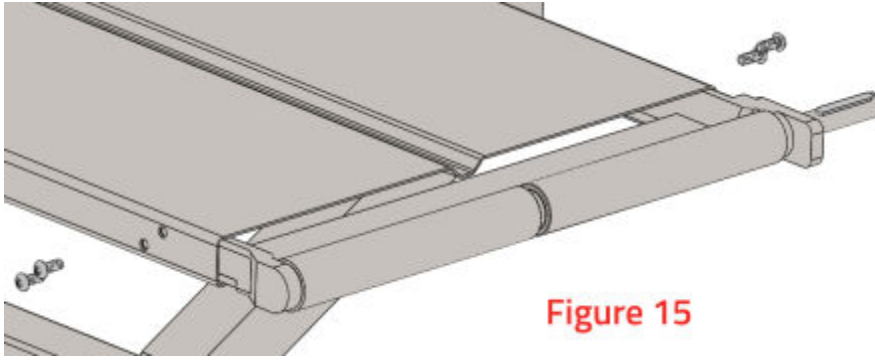

Figure 15
3. Using a 9/64 hex key, remove the 4 bolts securing the motor assembly to the conveyor body. Set these aside in a safe place. (See Figure 15)